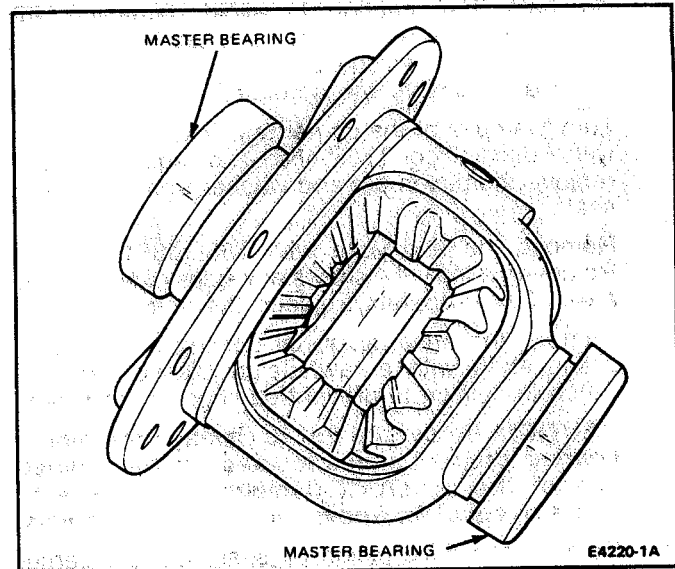

FIG. 24 Master Bearing Installation
2. Clean the trunnions on the differential and install the master differential bearings D81T-4222-B for Model 44 axles or D81T-4222-C for Model 50 axles (Fig. 24) onto the differential case. Remove all burrs and nicks from hubs so master bearings rotate freely.